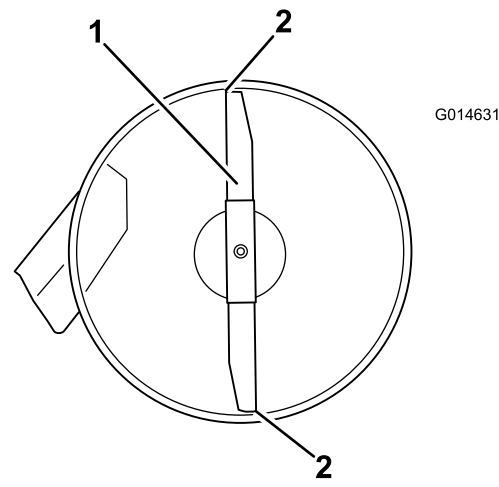

Figure 52
4. Carefully rotate the blades so they are facing front to rear (Figure 52).
5. Measure from the tip of the front blade to the flat surface and the tip of the rear blade to the flat surface (Figure 52). If the front blade tip is not 1.6-7.9 mm (1/16-5/16 inch) lower than the rear blade tip, adjust the front locknut.
8. After adjustment, check the front-to-rear slope again. Continue adjusting the nut until the front blade tip is 1.6-7.9 mm (1/16-5/16 inch) lower than the rear blade tip (Figure 52).